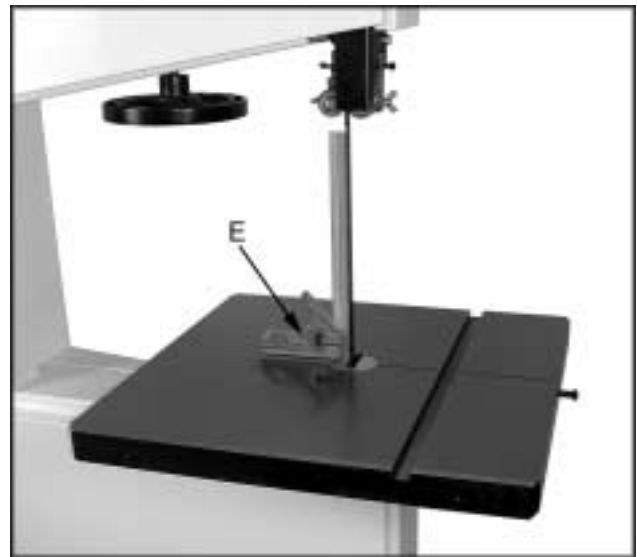

Fig. 8
3. Use a square (E, Fig. 8) placed on the table and against the blade to see if the table is 90 degrees to the blade.